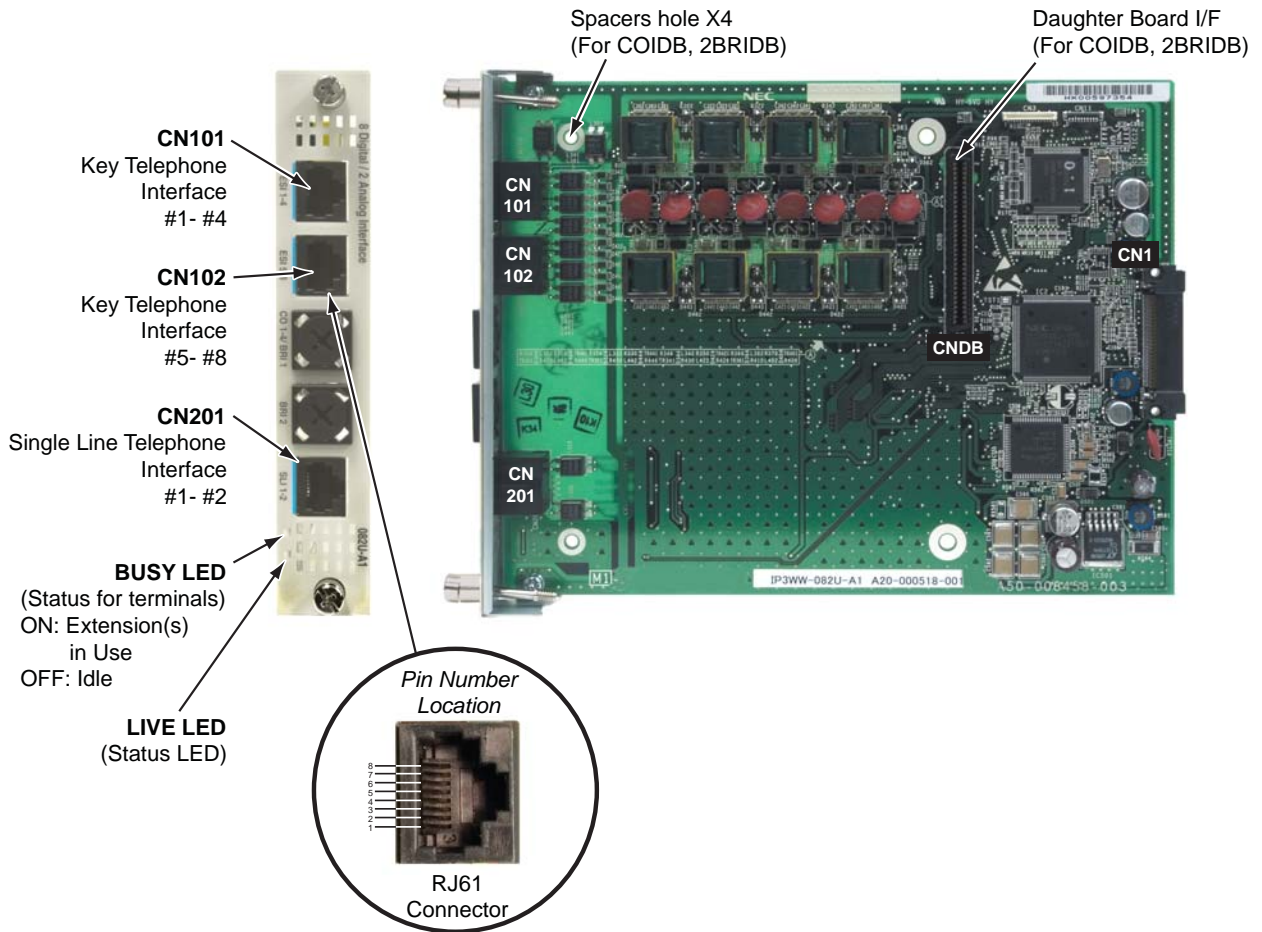

Figure 2-25: DIGITAL/SLT COMBINATION (082U) BLADE
2.5.4 Digital/SLT Combination Blade (082U) (Figure 2-25) - P/N 0911058